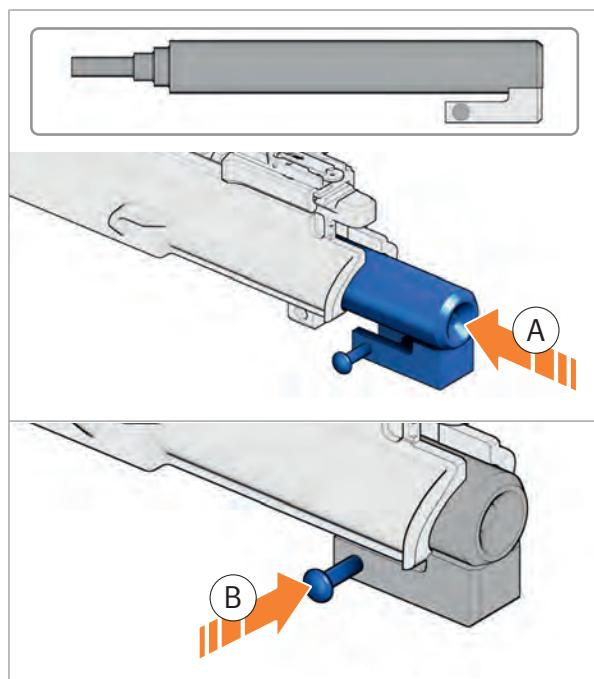

Fig. 104: Insert cleaning rod guide
2. Insert the cleaning rod guide into the upper receiver (Fig. 104).
3. Push the locking pin of the cleaning rod guide completely into the upper part of the receiver (Fig. 104).